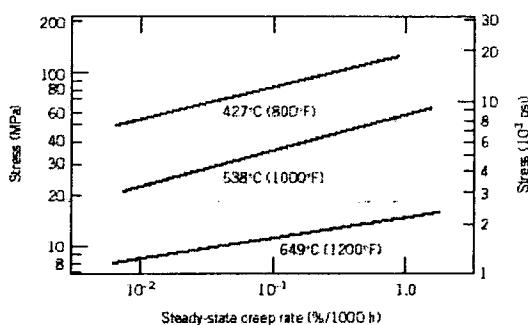

Figure 5: Stress (logarithmic scale) versus steady-state creep rate (logarithmic scale) for a low carbon-nickel alloy at three temperature
4. [a] For a cylindrical low carbon-nickel alloy specimen originally 10 mm in diameter and 500 mm long, what tensile load is necessary to produce a total elongation of 5 mm after 5000 h at 427°C? Assume that the sum of instantaneous and primary creep elongations is 2.0 mm. Figure 5 can be used to predict the time to rupture for the specimen.